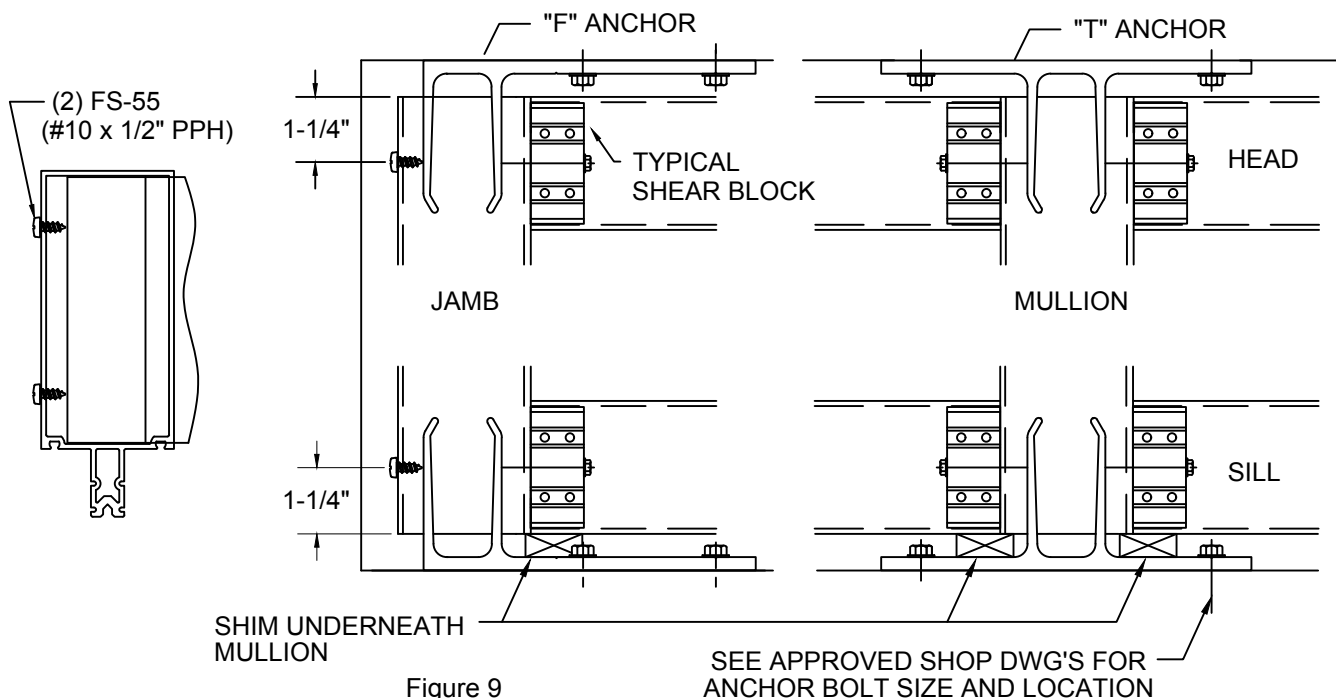

Figure 9
- 2.1.5 When using tee anchors, slide tee anchors into top and bottom of vertical mullions. The tee anchors are designed to clear the shear block fasteners. Prior to installation, when using jamb "F" anchor, install (2) FS-55 (#10 x 1/2" PPH) fasteners at each end of mullion to center F anchor in vertical. SEE FIGURE 9 BELOW.
- 2.1.15 Slide tee anchors into top of upper-most mullions. The tee anchors are designed to clear the shear block fasteners. See FIGURE 9, page 14. Attach tee anchor to building condition.